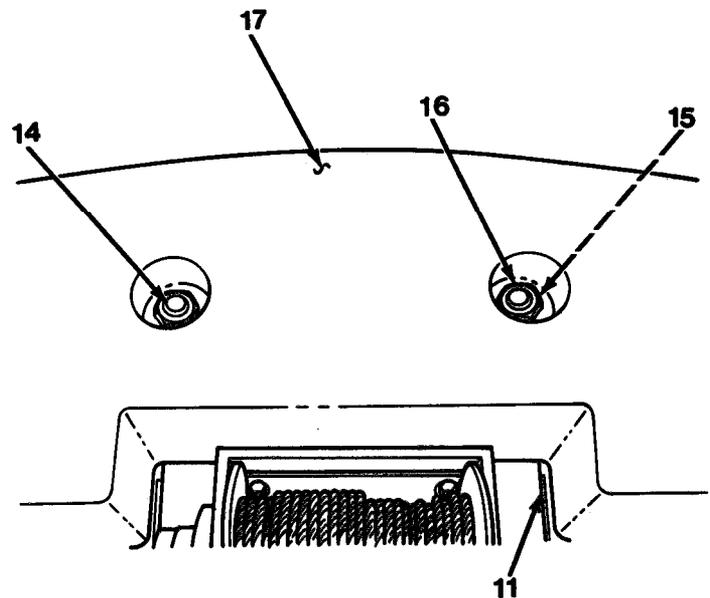

Figure 15-5
3. Support counterweight (17) with a lifting device. Remove two locknuts (16), washers (15) and capscrews (14). Lift off counterweight (17) from upperstructure (11, Figure 15-5).